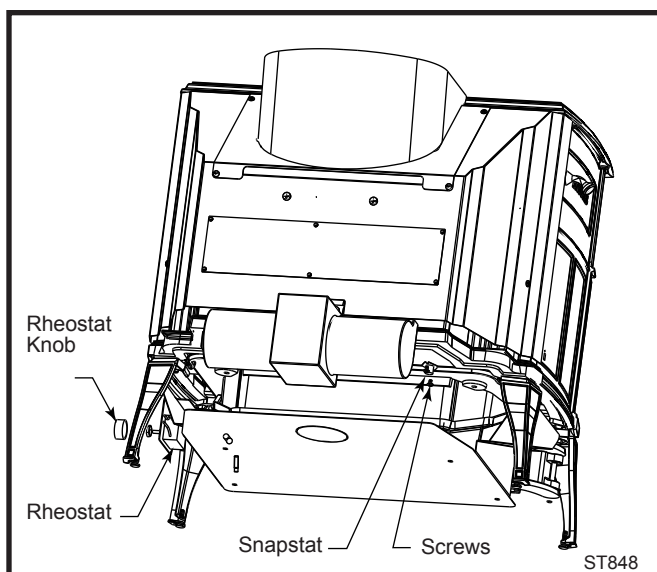

Fig. 32 Fan installation (Kit # 2767).
1. Remove the sheet metal outer back shown in Figure 32.
2. Attach the fan assembly at the bottom edge of the inner back with two (2) 1/4-20 x 3/4" hex head screws and one (1) 1/4" star washer.
3. Attach snapstat to the mounting holes on the underside of the bottom with two (2) 1/4-20 pan head screws.
4. Attach the rheostat holder, (provided with stove), under the right wing of the bottom heat shield with two (2) #10 sheet metal screws.